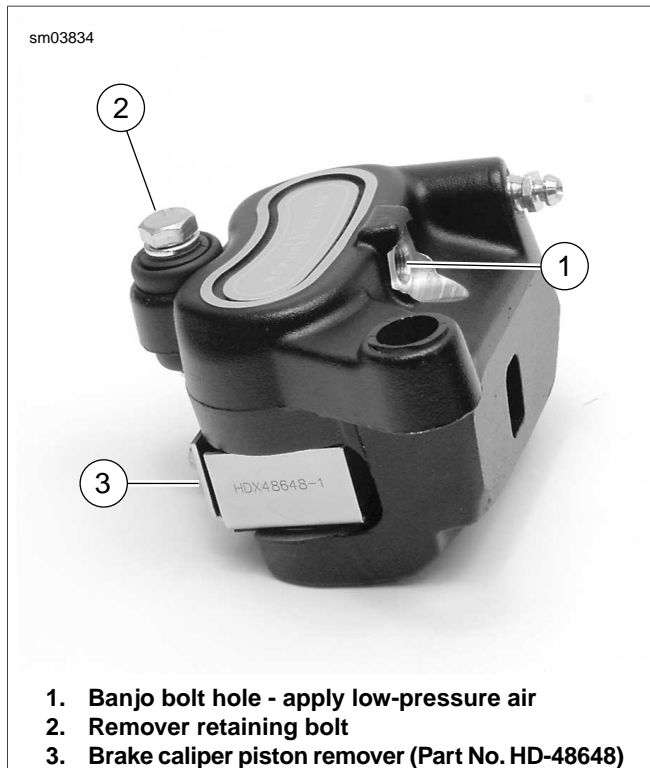

Figure 2-77. Removing Pistons
3. See Figure 2-77. Remove pistons.
- a. Place BRAKE CALIPER PISTON REMOVER (Part No. HD-48648) (3) into caliper housing. Install bolt (2) only enough to hold tool in place.